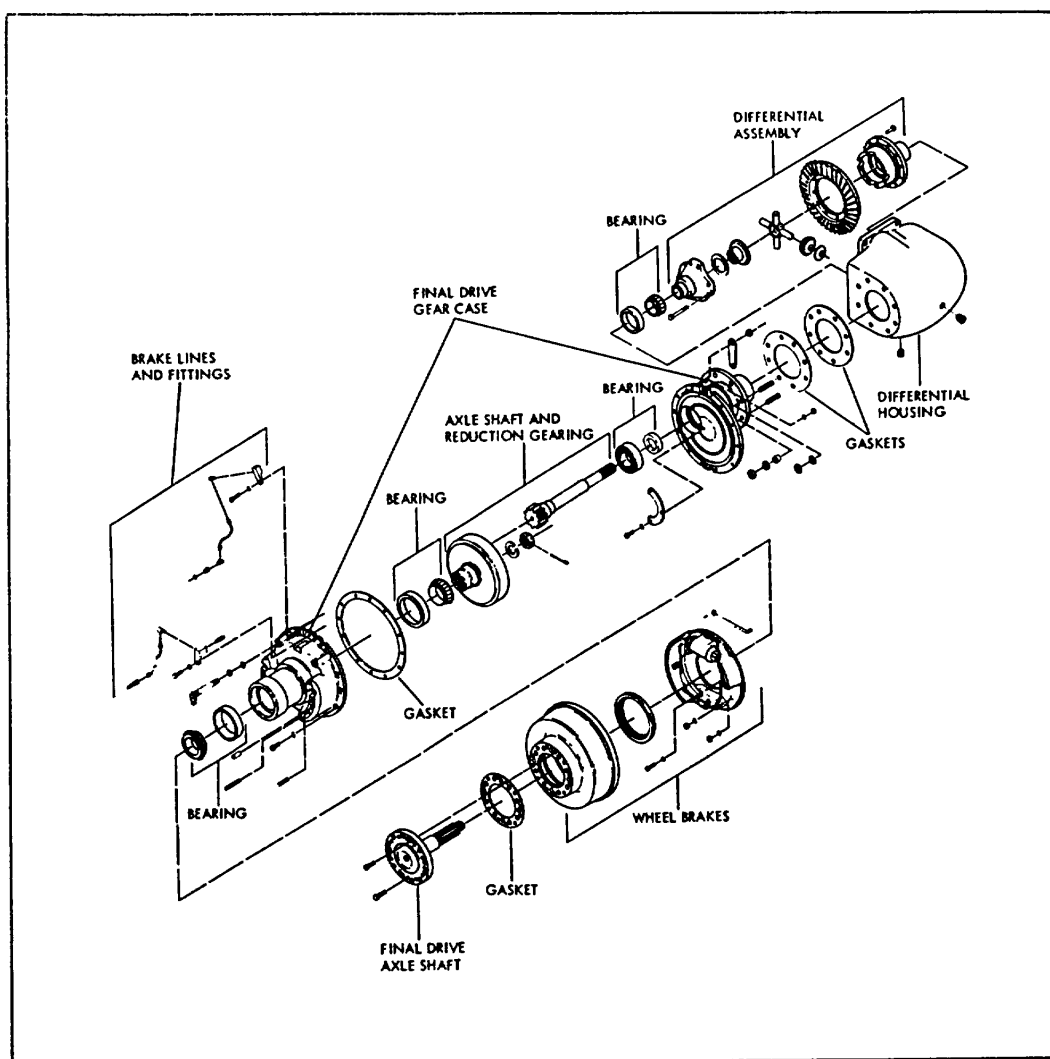

Figure 1-9. Drive Axle, Exploded View
**1-28. DRIVE AXLE (See figure 1-9).** This assembly is a double-reduction drive axle, bolted directly to the front of the transmission. The output shaft of the transmission includes the drive pinion gear which mates with the ring gear of the differential assembly to provide the first reduction. Internal gears at the outer end of the first drive axles drive sun gears to give the second stage reduction to the final drive axles and the wheels.